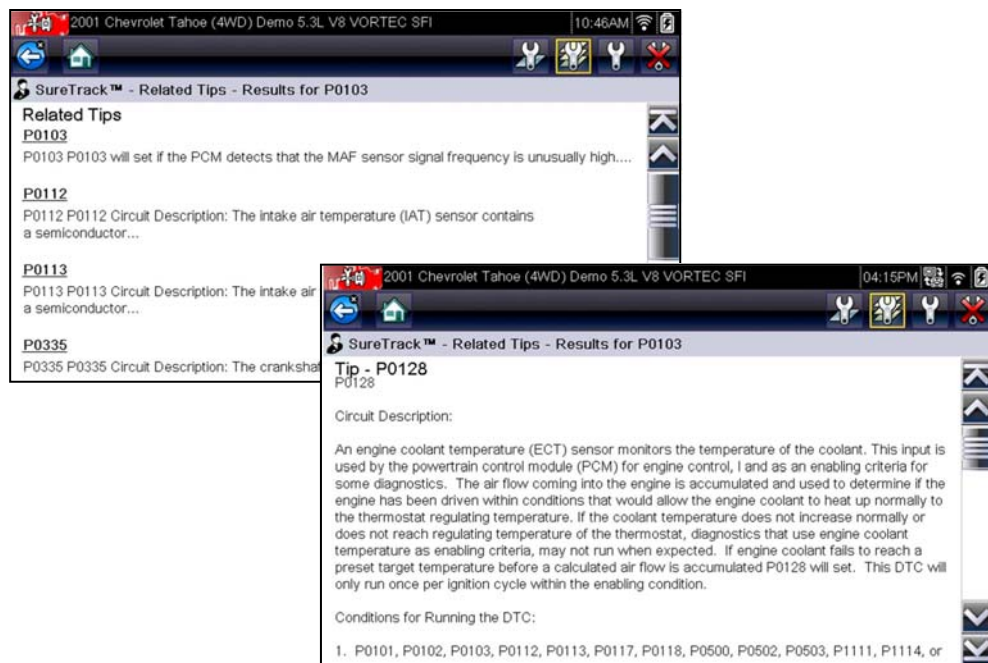

Figure 4-20 Tips and Related Tips examples
- Selecting the **Related Tips** icon will display a list of Related Tips. Selecting an item from the list, opens additional details about the Related Tip (Figure 4-20).